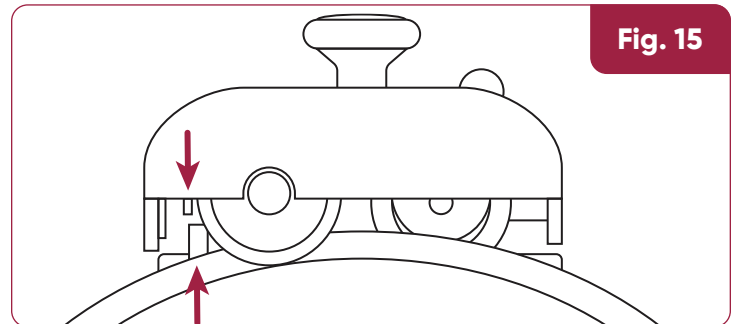

Fig. 15
3. Release the cap so that it fits onto the locator pins. (Fig. 15)